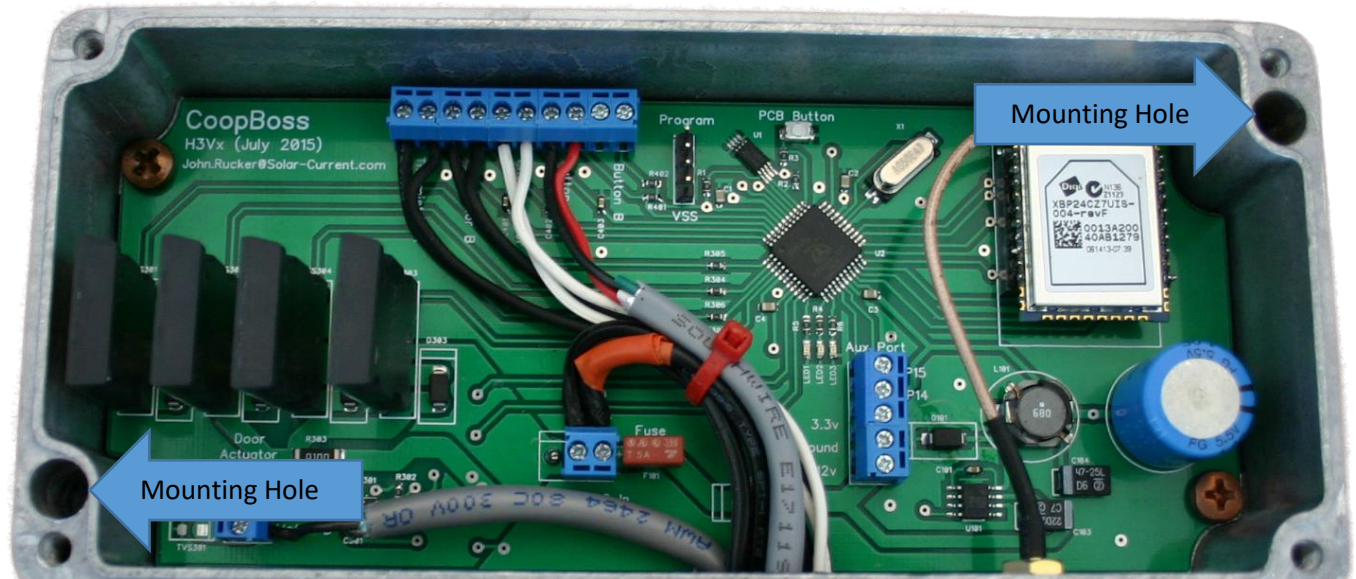

Figure 6
- b. To access the two mounting holes, remove the top lid to expose the two mounting holes as shown in Figure 6.